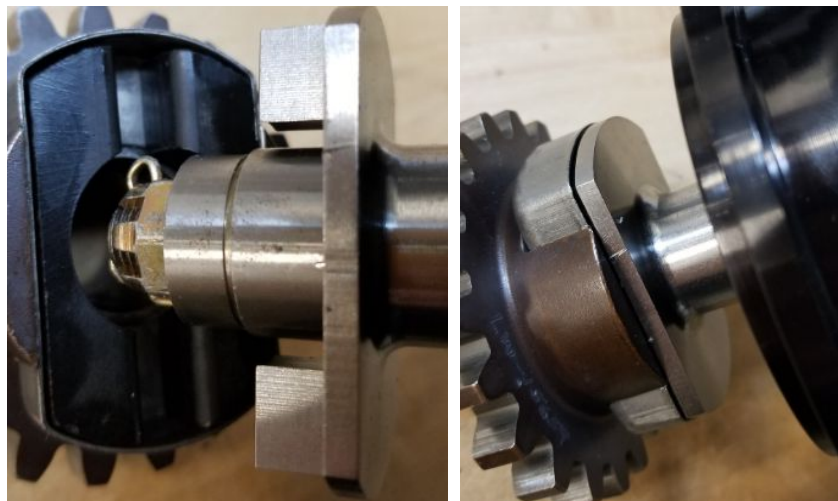

Figure 11: MTH Installation into magneto drive gear/cushions
- f. Install the MTH into the magneto hole and connect correctly with the magneto drive gear retainer and cushions. Electroair recommends using new magneto drive cushions. See Figure 11.